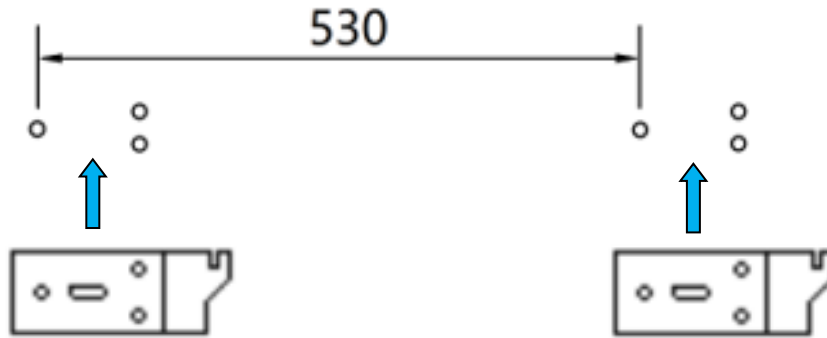
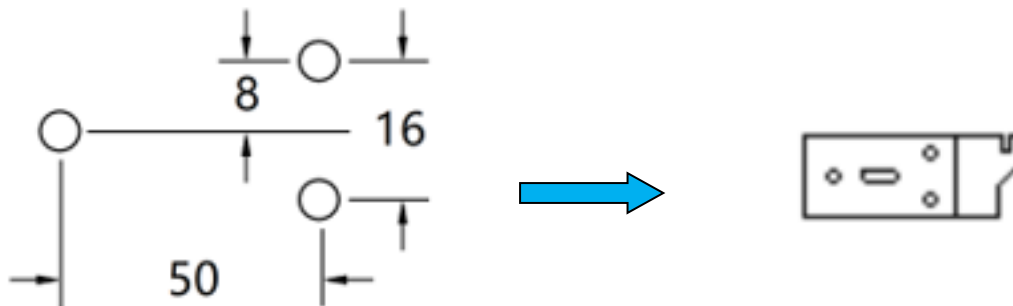

Fig 1: The distance (unit: mm) between the mounting holes of the two brackets.
Fig 2: The distance (unit: mm) between the three mounting holes of the bracket itself.
- 2. Select a position on the wall to mount the panel heater and drill holes where required before securing the plastic anchors in the holes. Use the 6 wall screws to fix 2 brackets onto the wall according to the distances between holes of the bracket, as depicted in the picture below Fig 1 and Fig 2. **Ensure that the brackets are securely installed and will not come loose.**